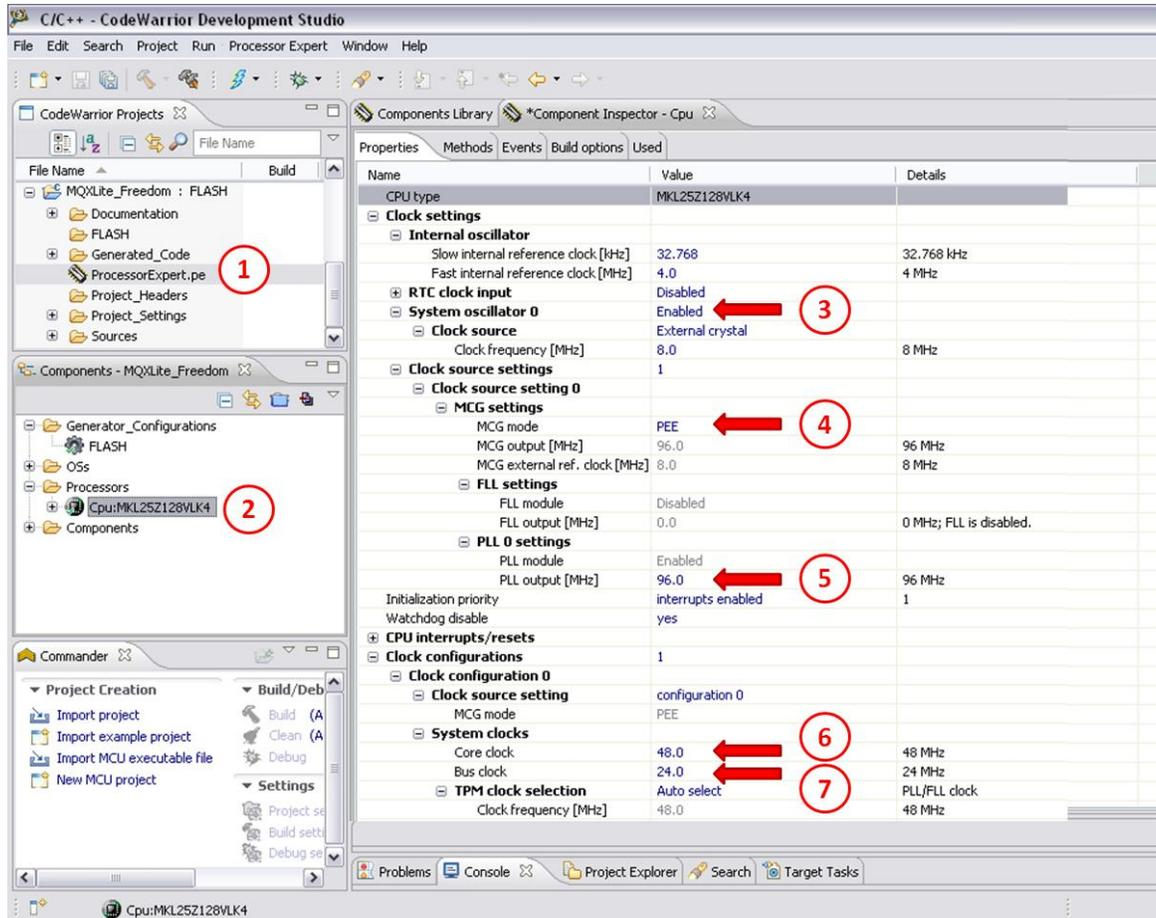

Figure 10. Clock settings and configurations
1. Double click in the “ProcessorExpert.pe” item under the “CodeWarrior” project window. This will update the content of the “Components” window where “Cpu: MKL25Z128VLK4” component must be selected to enable the content in the “Component Inspector,” right of the windows mentioned above. There are 5 things that need to be modified. Figure 10 shows, in detail, the options and the right values to be modified.